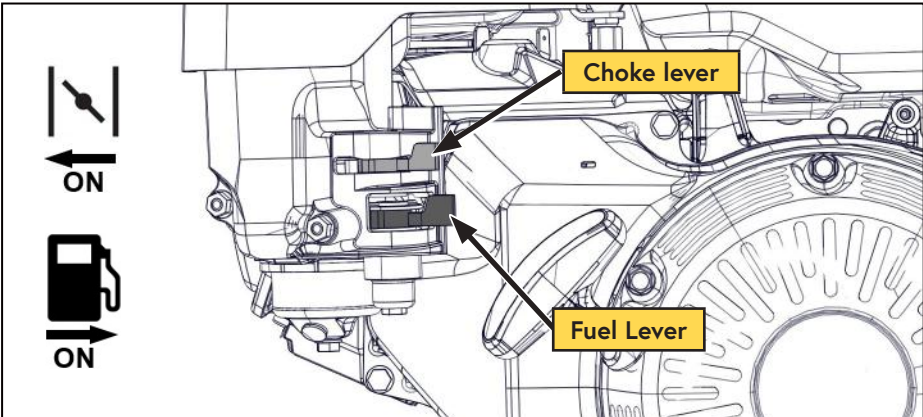

Figure 18 — Fuel and choke levers
- 3) Close the choke by moving the choke lever all the way to the left (Figure 18).
- 4) Turn on the fuel by moving the fuel shut off lever all the way to the right (Figure 18).